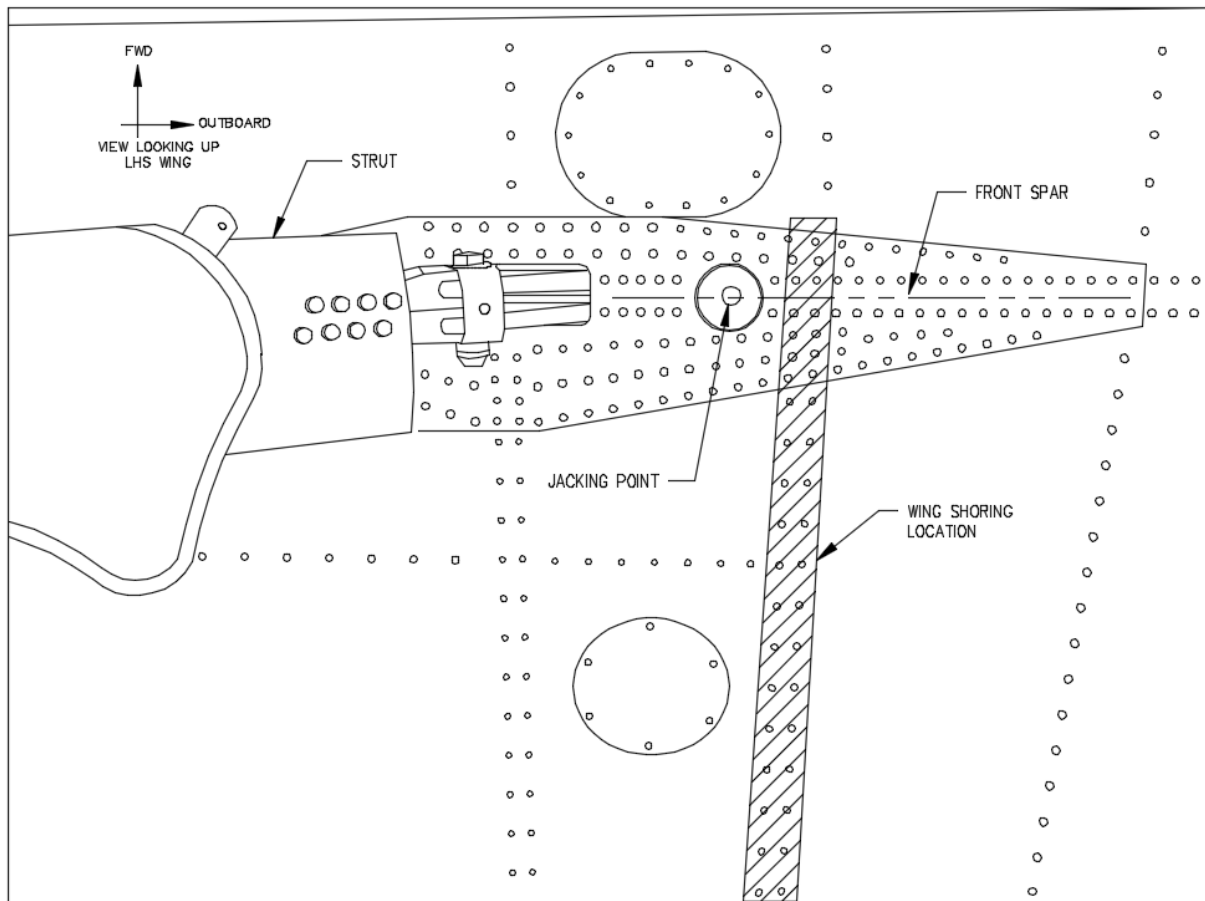

Figure 1 – Wing Shoring Location
4. When the aircraft is stable, work can start. Support the wing by shoring underneath the lower wing skin at the first Rib outboard of the strut attachment point as described in Chapter 7-20-10 of the GA8/GA8-TC 320 Service Manual and shown in Figure 1. Concurrently, shore and/or put a jack under the opposite wing to help aircraft stability – use of a Tail Stand at the rear of the aircraft can also help.